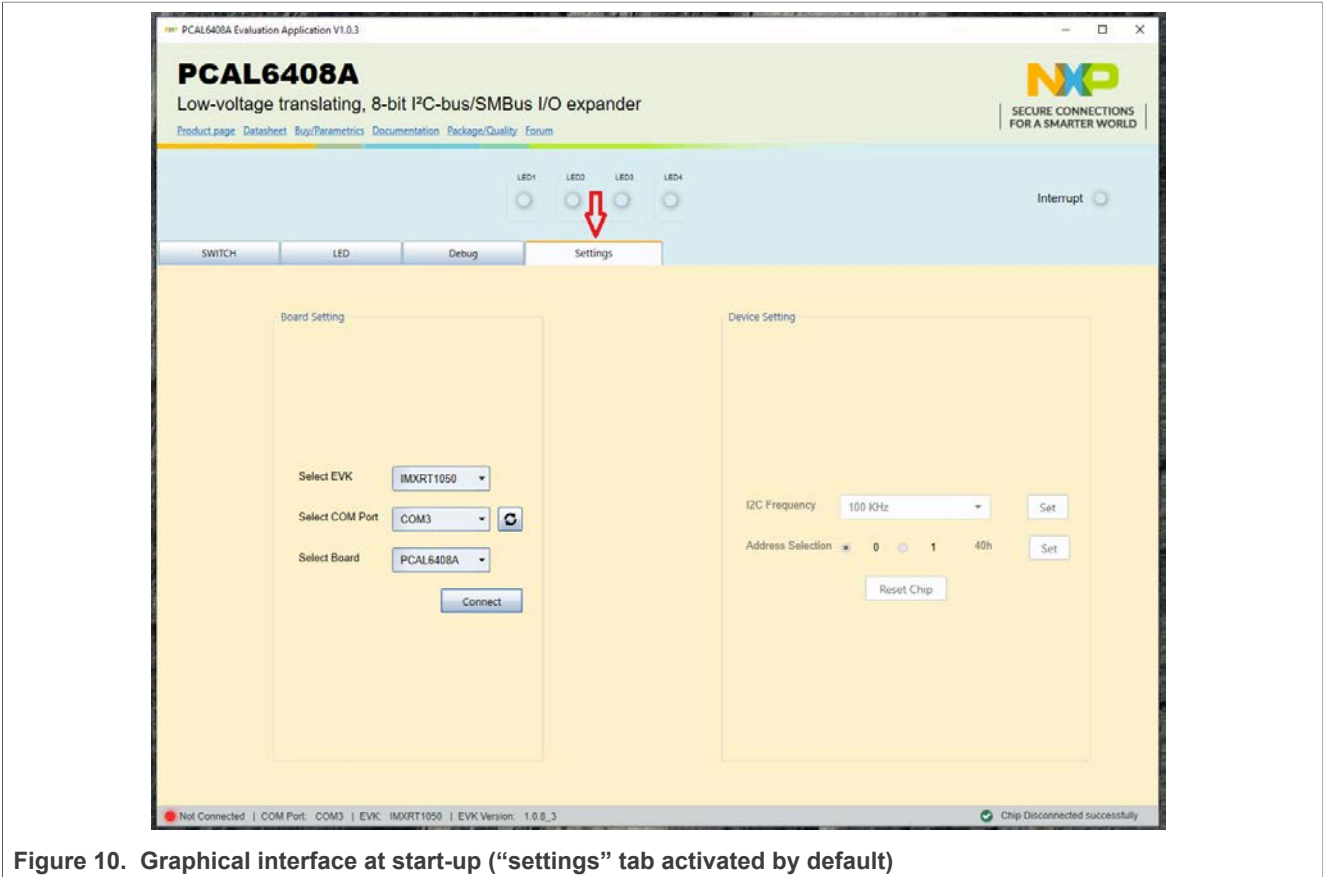

Figure 10. Graphical interface at start-up (“settings” tab activated by default)
Once installation is complete, assure that one of the mentioned three EVK with attached PCAL6408A-ARD daughter board is connected to PC and powered-on. Open NXP_(PCAL65x4,PCAL64xxA) GUI application. An interface will appear as is shown in Figure 10:
- **Select Board:** allows the user to select the correct daughter board (the application can support four different boards). In Figure 10, the selected board is PCAL6408A. Selecting a wrong daughter board causes the connection to fail and a pop-up window with the message: *“Unable to Connect with Daughter Card”* appears on the screen.